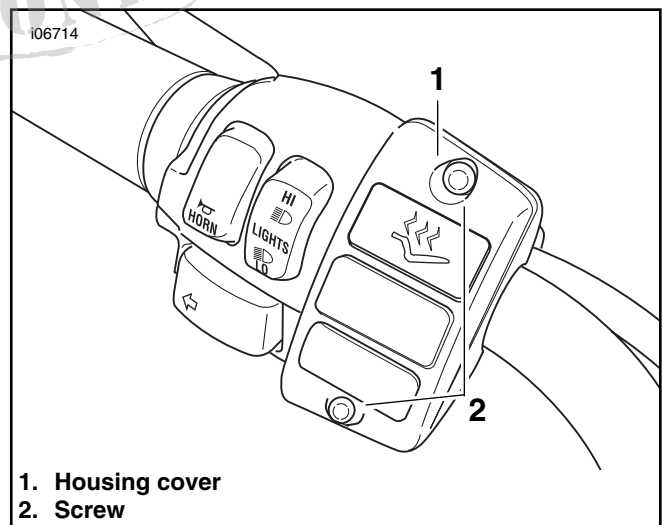

Figure 3. Housing Cover
2. See Figure 3. Orient the radiant heat lines of the bezel to indicate rising heat, over the opening of the housing cover.
6. See Figure 3. Using a T-25 TORX driver, install the cover with the 2 button head screws. Tighten to 35-45 **in-lbs** (4-5 Nm).